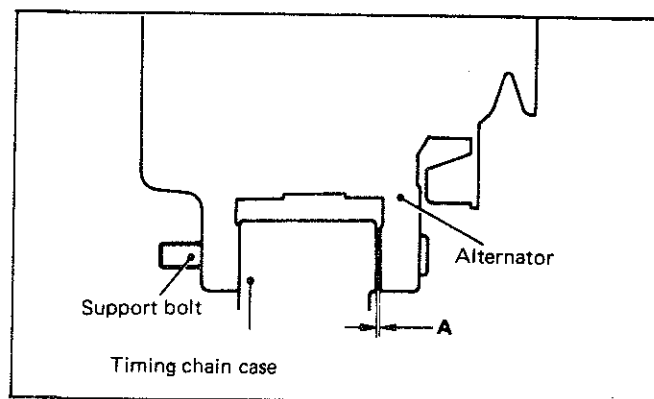

Fig. 9—Alternator mounting gap
- (1) Align the hole in alternator leg with that in the front case and insert the alternator support bolt from the front side.
- (2) Install the brace bolt.
- (3) Install the belt.
- (4) Push the alternator toward the front of the engine and check for a clearance (A) between the alternator leg and the front case or timing chain case. If the clearance is more than 0,2mm (0.008 in.) insert spacers [0,198mm (0.0078 in.) thick] as required. (Fig. 9).
- (5) Remove the alternator support bolt, insert the spacers selected under the above item 4, reinsert the bolt, and tighten the nut.
- (6) Adjust the belt tension.
- (7) Tighten the alternator support bolt nut and brace bolt to the specified torque.
- (8) Reconnect the "B" terminal and connector.
- (9) Connect the battery negative cable.